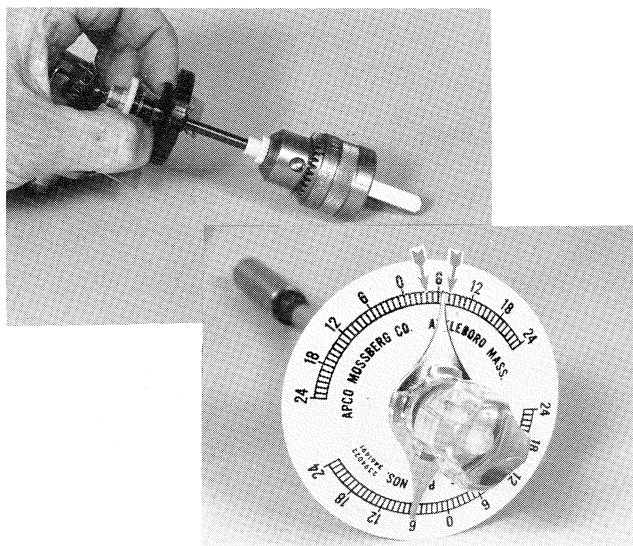

Figure 12. Measuring Sensor Drive Crank Clutch Torque
3. Grasp the Crank (Figure 12) and turn the Torque Wrench until the Sensor Drive Clutch starts to slip. The Torque Wrench should read 4-8 inch/ounces. (This reading must be obtained when turning the torque wrench both clockwise and counterclockwise.)